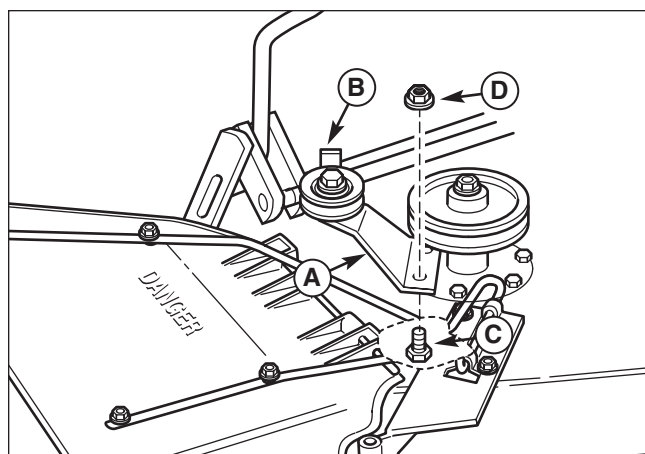
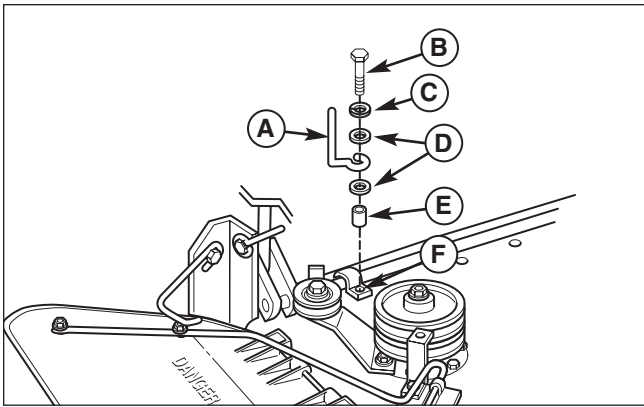

Figure 9. Install Idler Assembly
Figure 10. Install Wire Belt Guide 44" & 50" Mower Deck
3. Install 5/16-18 x 7/8 capscrews (C, Figure 9) through the mower deck and arbor as shown. Tighten capscrews.
4. Install the idler assembly (A) to the mower deck using 5/16-18 x 7/8 capscrews (C) and 5/16-18 nuts. The belt guide should be positioned as shown.
5. **44" and 50" Mowers** - Remove and discard the taptite screw in existing hole (F, Figure 10) if unit has roller bars.
6. **44" and 50" Mowers** - Install wire belt guide (A, Figure 10), spacer (E) washers (D), washer (C) and cap screw (B) as shown.